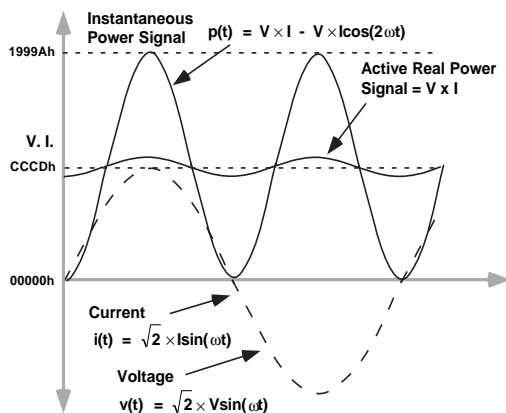

Figure 28– Active Power Calculation
$P$  is referred to as the Active or Real Power. Note that the active power is equal to the dc component of the instantaneous power signal  $p(t)$ , i.e.,  $VI$ . This is the relationship used to calculate active power in the AD7756. The instantaneous power signal  $p(t)$  is generated by multiplying the current and voltage signals. The dc component of the instantaneous power signal is then extracted by LPF2 (Low Pass Filter) to obtain the active power information. This process is illustrated graphically in Figure 28. Since LPF2 does not have an ideal “brick wall” frequency response—see Figure 29, the Active Power signal will have some ripple due to the instantaneous power signal. This ripple is sinusoidal and has a frequency equal to twice the line frequency. Since the ripple is sinusoidal in nature it will be removed when the Active Power signal is integrated to calculate Energy – see *Energy Calculation*.
As mentioned in the last section, the discrete time sample period (T) for the accumulation register is 1.1µs. The integration time is proportional to the CLKIN frequency, in this case 3.579545 MHz. With full-scale sinusoidal signals on the analog inputs and the Active Power Gain register set to 000h, the average word value from LPF2 is CCCDh - see figures 28 and 31. The maximum value which can be stored in the Active Energy register before it over flows is 239 or 3FFF,FFFFh. Therefore the integration time under these conditions is calculated as follows: